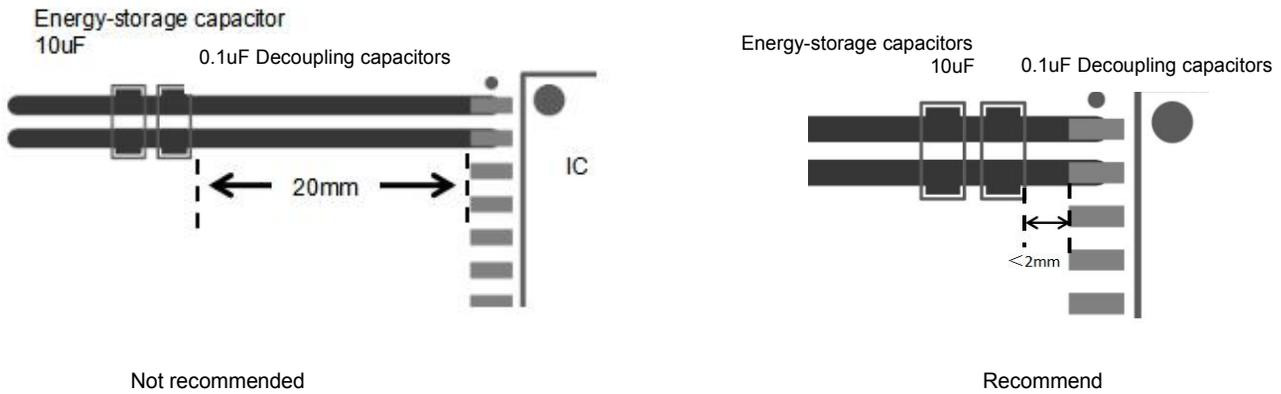

Figure. 23-1
1. The decoupling capacitors and energy storage capacitors of VCC and GND1, VISO and GND2 should be placed as close to the chip pins as possible to reduce the loop area and parasitic inductance of PCB wiring. Generally, it should be controlled within 2mm. The decoupling capacitor is placed near the chip, and the energy storage capacitor is placed on the outside. As shown in Figure 23-1.